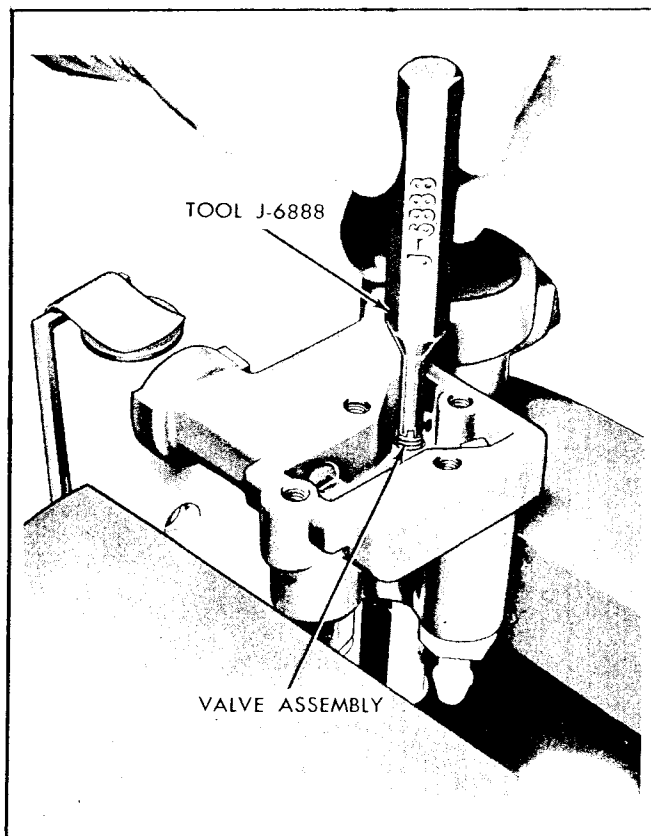
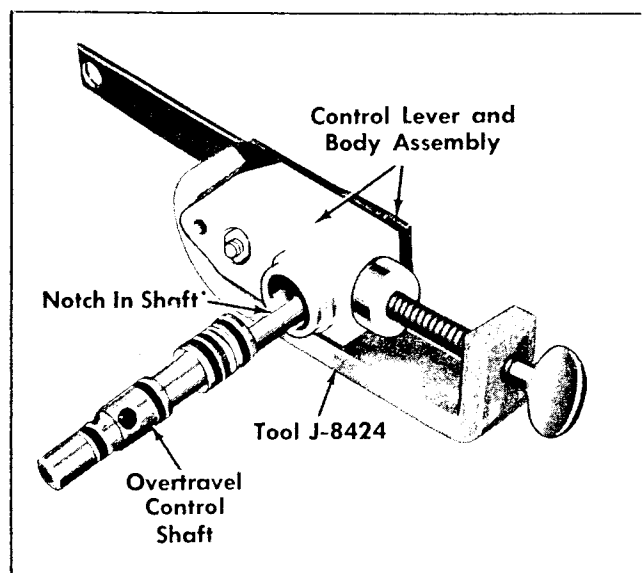

Figure 12-16: Replacing Valve Core Assemblies
Figure 12-17: Replacing Overtravel Lever
- (1) Remove inlet adapter and check valve assembly (18) from valve body (10). Remove outlet adapter (20). Remove adapter O-Rings (17). Remove air line fitting gasket (21) from adapters. Remove outlet adapter screen (19).
- (2) Remove four cover screws and lockwashers (1) from cover and bracket (2). Remove cover and bracket and gasket (6).
- (3) Position valve with delay plug (13) at top. Unscrew delay plug from valve body (10). Drain silicone fluid from cavity. Remove plug O-ring (12). Unscrew piston pin (11) from control shaft (23).
- (4) Remove delay cover retainer (35), cover (3) and cover O-ring (4). Remove delay piston (5). Discard O-ring.
- (5) Remove valve lever screw and lockwasher (7) from valve lever. Remove exhaust valve and intake valve lever (36) from valve body.
- (6) Remove valve stem lock clip (8) from stem of exhaust valve core. Spread locking arms and slide clip from around stem.
- (7) Pull overtravel assembly and shaft from valve body.
- (8) Remove intake valve core (9) with tool (MCI Part No. 20-35), Refer to Figure 12-16.
- (9) Remove exhaust fitting (16) and screen (15), then remove exhaust valve core (14) with tool (M.C.I. Part No. 20-35), Refer to Figure 12-16.
- (10) Remove plug retainer (33) from overtravel con-
- (11) Place forked end of tool (M.C.I. Part No. 20-36) around shaft in overtravel control body, then tighten clamp screw, Refer to Figure 12-17.
- (1) Install intake valve core (9) and exhaust valve core (14) with screen (15) in control body (10) as shown in Figure 12-16. Tighten to 2-1/2 to 3 inch-pounds torque. Install exhaust fitting (16).
- (2) Lubricate overtravel control body with multi-purpose grease. Assemble overtravel components as follows:
- (A) Install overtravel lever (32) on control body. Place lever stud nut (34) on stud and torque to 70-80 inch-pounds.
- (B) Place overtravel lever large spring (27), and overtravel lever small spring (28) inside piston (26). Insert piston in control body (30).
- (C) Place three new O-rings (22 and 24) on overtravel control shaft (23). Lubricate shaft and O-rings with multi-purpose grease.
- (D) Position fork of tool (M.C.I. Part No. 20-36) so that the shaft can be inserted in body. Carefully apply pressure with clamp screw (Refer to Figure 12-17). Compress springs only enough to allow shaft to be inserted. Install overtravel control shaft (23). Rotate shaft so that flat is next to piston, and remove tool (M.C.I. Part No. 20-36).
- (E) Insert overtravel body plug (25) in bore of body. Force new plug retainer (33) in position over